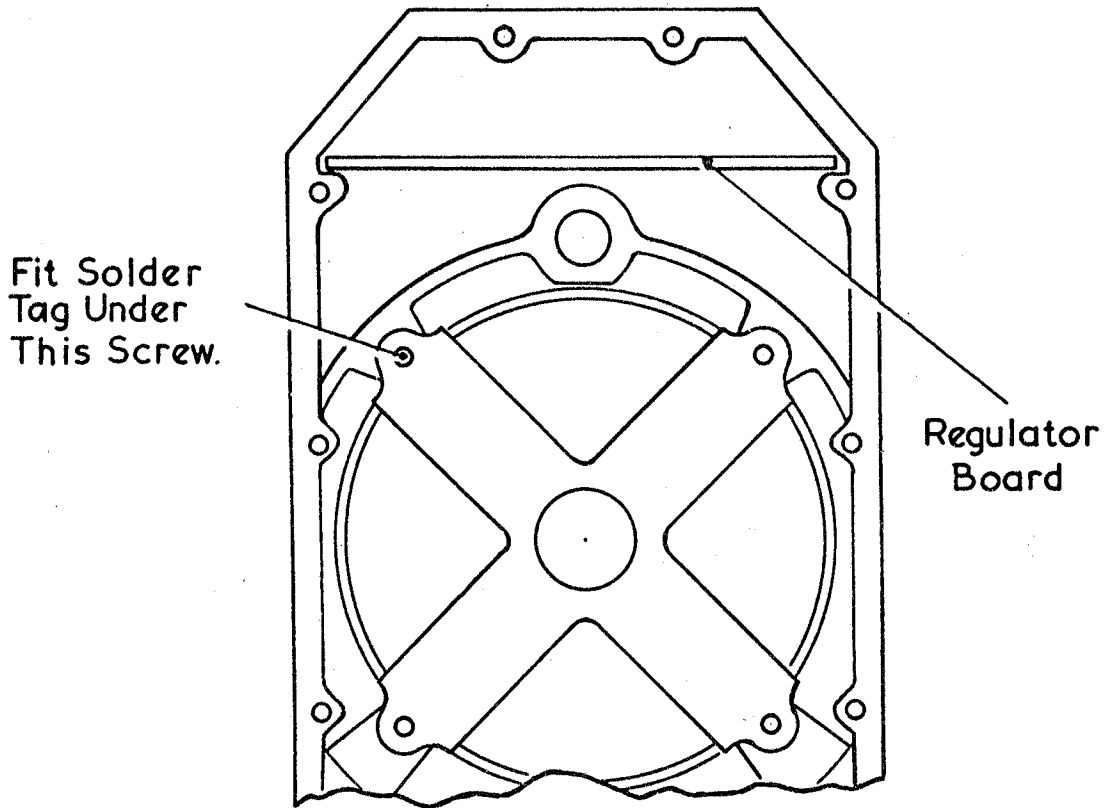

Fig 2 - Location of solder tag
- k. Solder the free end of the black wire fitted in g. to the solder tag provided and secure the solder tag as shown in Fig 2.
Module M - figure 2
Module G - figure 2
- p. Strike through, without obliterating, the figure 2 on Module M modification record plate.
- e. Strike through, without obliterating, the figure 2 on Module G modification record plate.